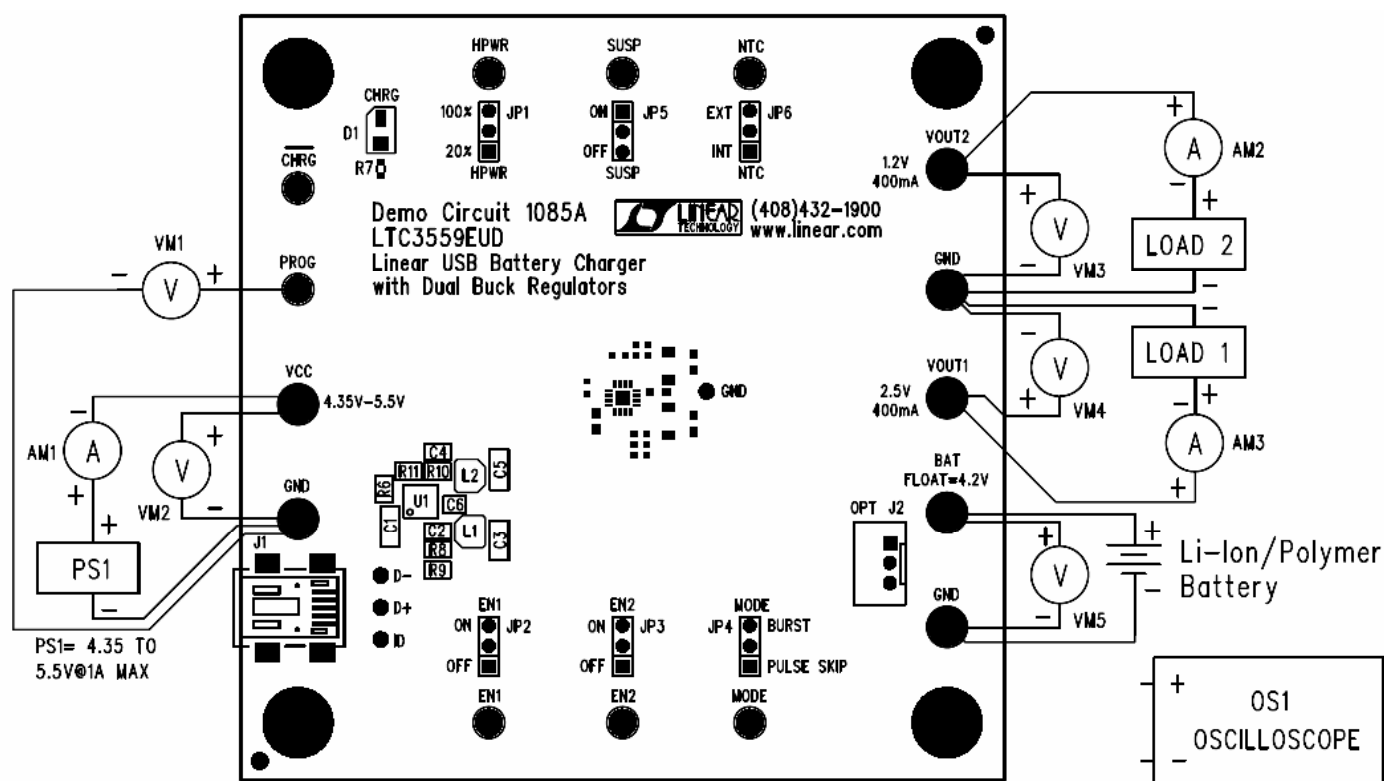

Figure 1. Proper Measurement Equipment Setup
Using short twisted pair leads for any power connections and with all loads and power supplies off, refer to Figure 1 for the proper measurement and equipment setup. The Battery should not be connected to the circuit until told to do so in the procedure below.
2. Connect a battery charged to 3.6 Volts to the demo board as shown in Figure 1.